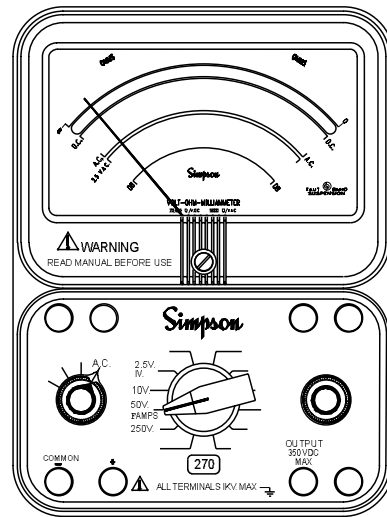

Figure 4-5. Jacks and Switch for Output Measurement
- Set the function switch at AC (Figure 4-5).